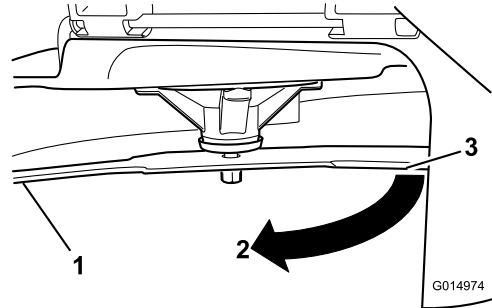

Figure 48
4. Rotate the same blade 180 degrees so that the opposing cutting edge is now in the same position (Figure 48).